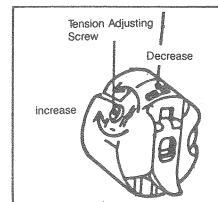

Fig. 20
- b) Adjusting the Bobbin Thread Tension As shown in Fig. 20, adjust the Bobbin Thread Tension by turning the Tension Adjusting Screw on the Bobbin Case: turn clockwise to increase, or counterclockwise to reduce, the tension.